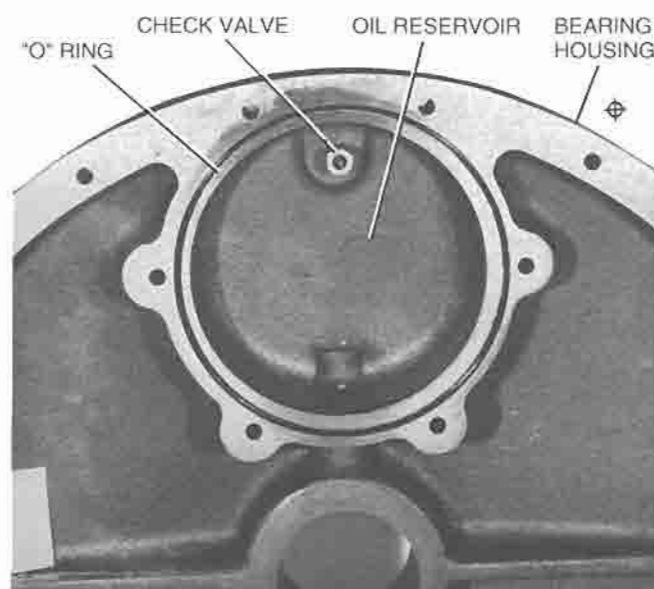

FIG. 31 – OIL RESERVOIR (BEARING HOUSING)
1. Install a new "O" ring in the groove around the oil reservoir cavity. (See Fig. 31) Coat the "O" ring with Vaseline to hold it in the groove.